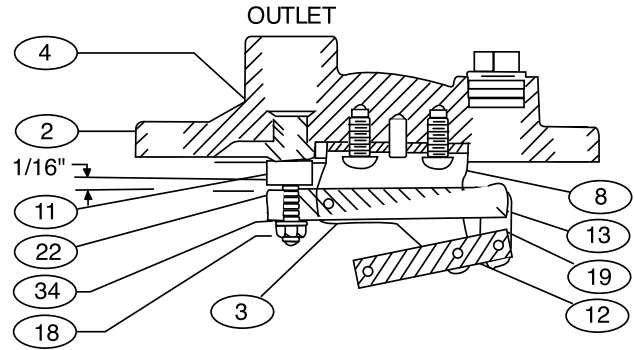

Figure 4. Compound Lever ARV mechanism for Orifice Button Adjustment
2. Screw down lever frame (3) to cover, over locating pin (21) in cover, with screws (8) and washers (30).
3. Install new orifice button (11) flush to arm (22). Assemble lockwasher (34) and locknut (18) over orifice button but do not tighten. (see 5)
4. Connect arms (10 & 22) and assemble to lever frame (3) with four pivot pins (12) and retaining rings (13); rings should snap over pins.
5. Adjust orifice button (11) so that orifice button arm (22) slopes up about 1/16" when resting gently against seat (4) as shown in Figure 4. Secure button by tightening lockwasher (34) and nut (18).
6. Attach float (5) by installing last pivot pin (12) into lever frame (3). Float should lift freely pressing the orifice button (11) against the seat (4) when pushed upward. Verify that all retainers rings (13) are properly secured.
7. Lay new cover gasket (6) on clean surface and apply a gasket compound such as Garlock 101-S to both surfaces. Assemble gasket (6) and cover (2) over bolt holes in body (1).
8. Lubricate bolts (7) and tighten to the torques in Table 2.